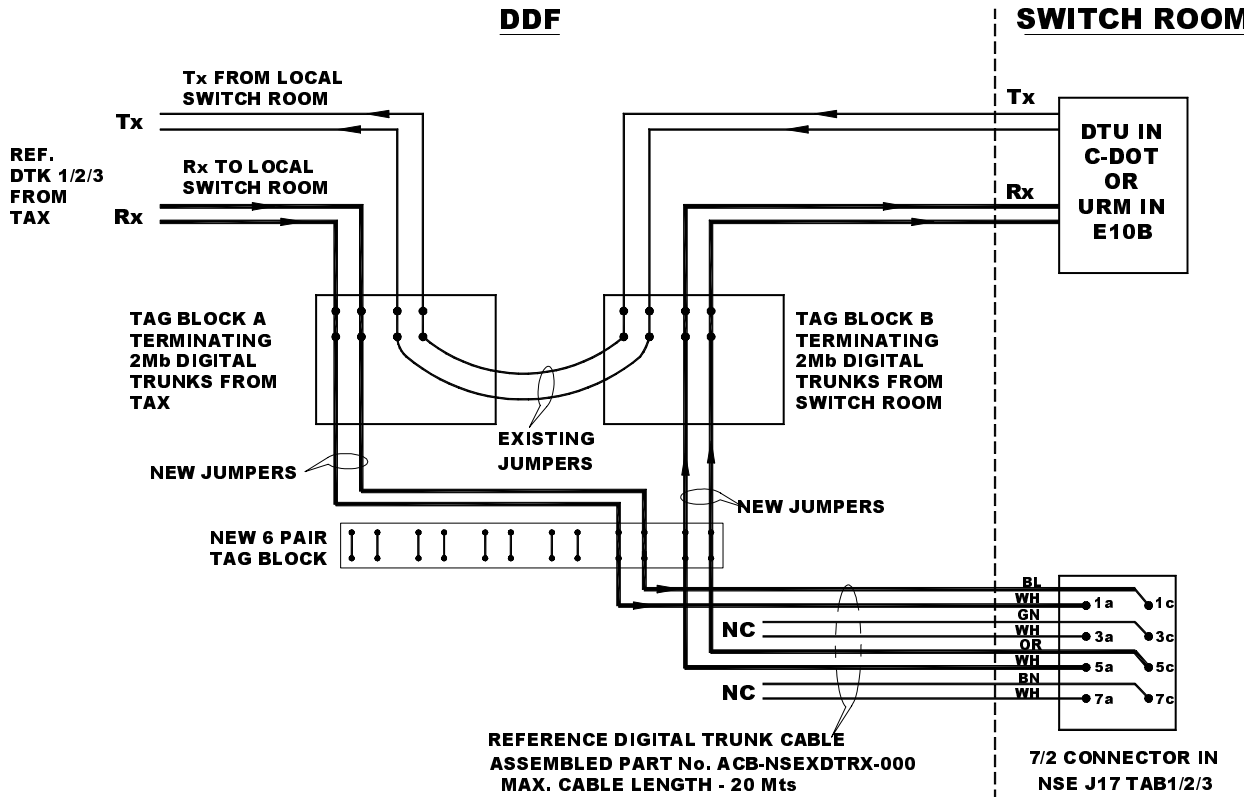

Figure 4.2e
- Rx pair to be isolated and connected to separate tab blocks, i.e. routed in serial mode via NSE as shown in fig 4.2e.
- Terminate Rx pairs of ref.digital trunk 1 from tab blocks on 7x2 connector for NSE J17 tab1 as shown in fig.4.2e